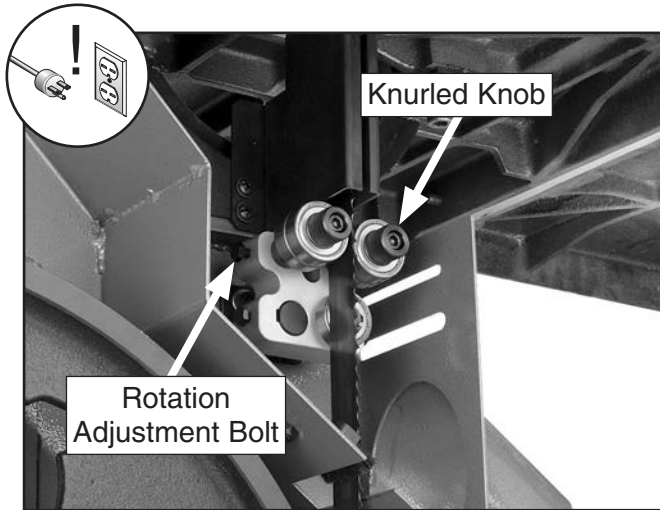

Figure 34. Front lower blade guide controls.
4. Familiarize yourself with the lower blade bearing controls shown in **Figure 34**.